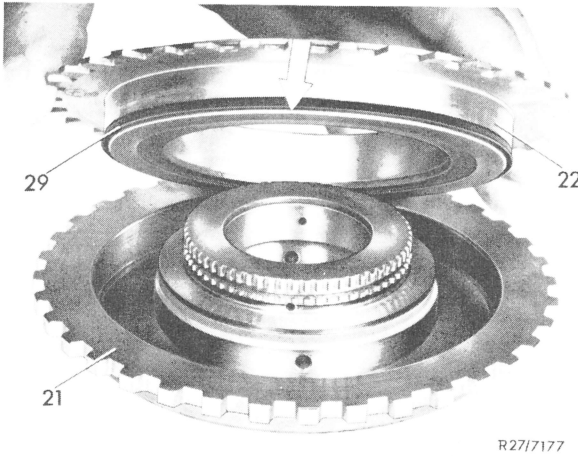

Fig. 6
7 Lift piston (22) out of supporting flange (21) (Fig. 6).
18 Insert lip sealing ring (29) into groove of clutch piston (22). The sealing lip should face downwards in direction of arrow (Fig. 6).